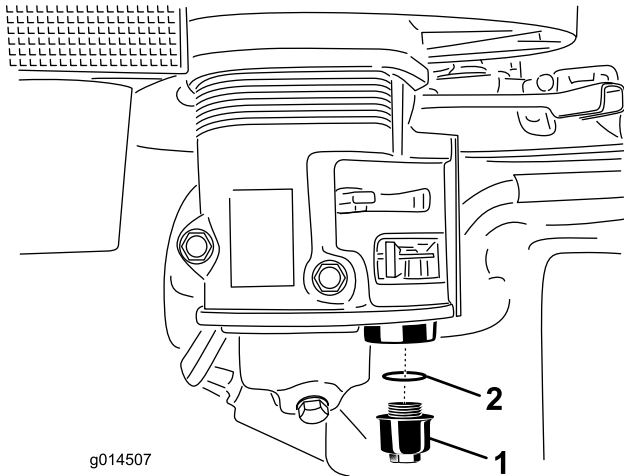

Figure 16
2. Unscrew the sediment cup. Make sure not to misplace the o-ring (Figure 16).